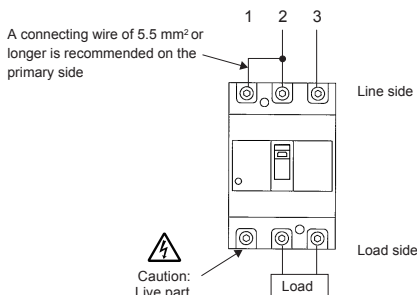

Figure 1. Connection method in a single-phase two-wire circuit
- If using MDU Breaker with a single-phase two-wire circuit, connect it as shown in Figure 1 below. The left pole (1-phase) load side is a live part, so be sure to insulate it.